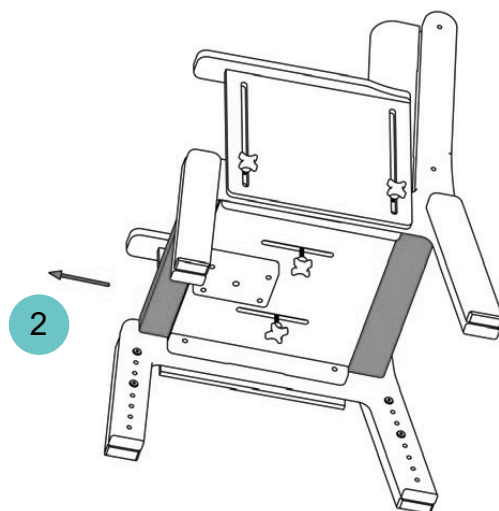

Figure 3
- Slide seat to desired position. (Ref. 2 of Figure 3)